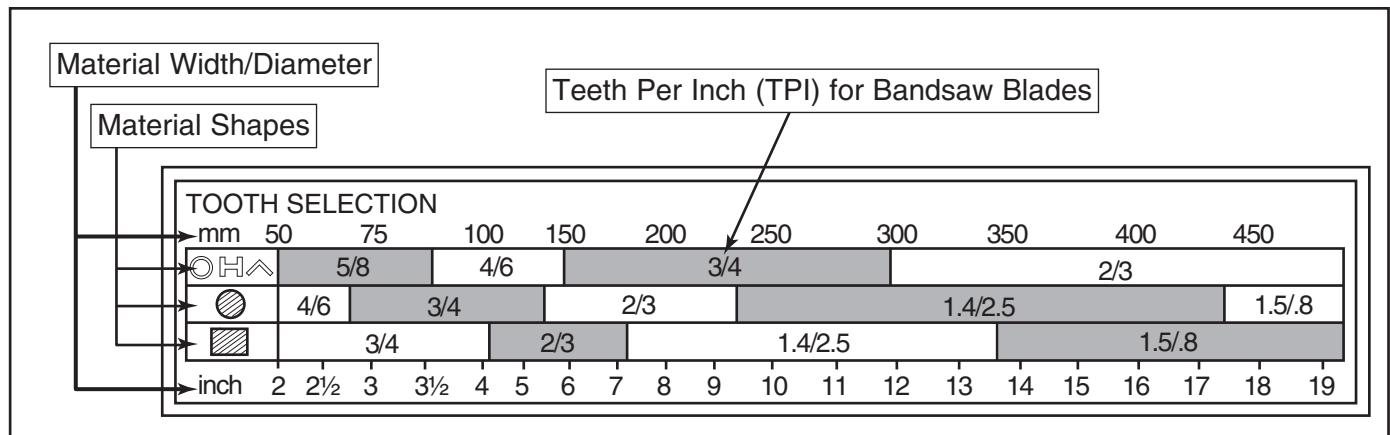

Figure 25. General guidelines for blade selection and speed chart.
2. Refer to the "Material Width/Diameter" row of the blade selection chart in Figure 25, and read across to find the workpiece thickness you need to cut.